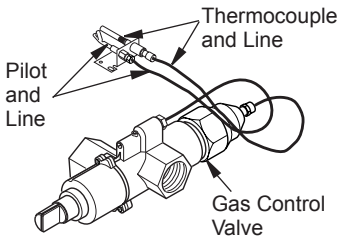

Figure 11 - Gas Control Valve with Thermocouple and Pilot
2. Attach the pilot gas line to the pilot outlet of the gas control valve and tighten. Connect the thermocouple to the rear of the gas control valve. See Figure 11. Do not overtighten. If using propane/LP gas, see Changing Pilot Orifice, page 11.